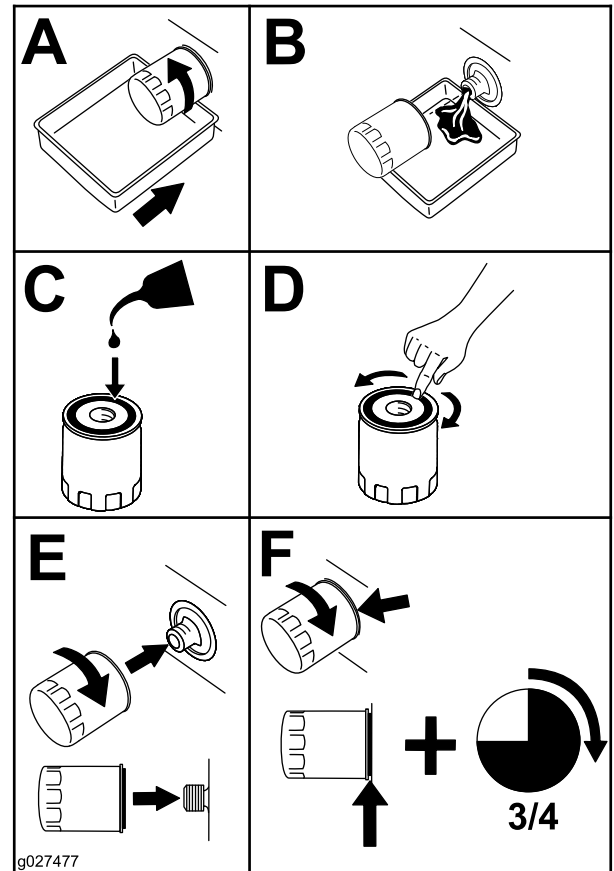

Figure 100
6. Replace the engine-oil filter as shown in Figure 100.